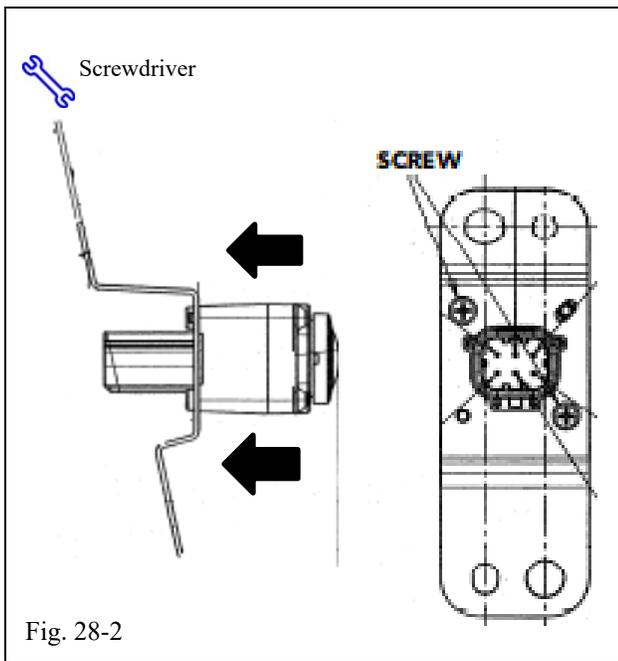

Fig. 28-2
- (b) Insert Camera into bracket provided, in the orientation shown. (Fig 28-2)
- (c) Using a screwdriver, install the 2 screws (Fig. 28-2)
- (b) Insert connector cap into bracket provided in the orientation shown. (Fig 28-2). No screws are required for connector cap attachment.